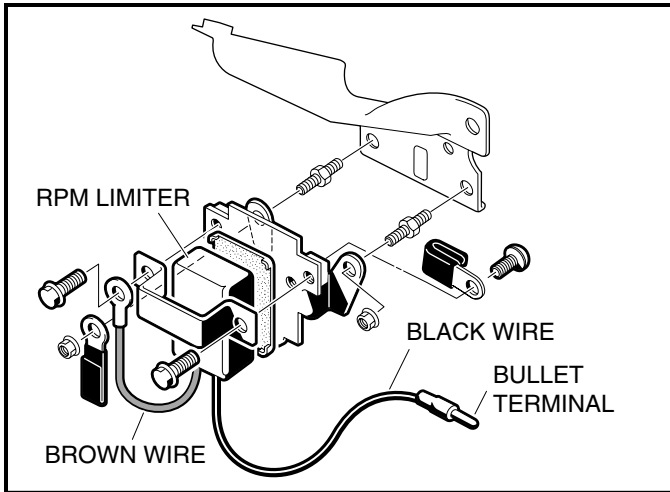

FIGURE 12-29
**Test Procedure 12 - RPM Limiter (Figure 12-29):**